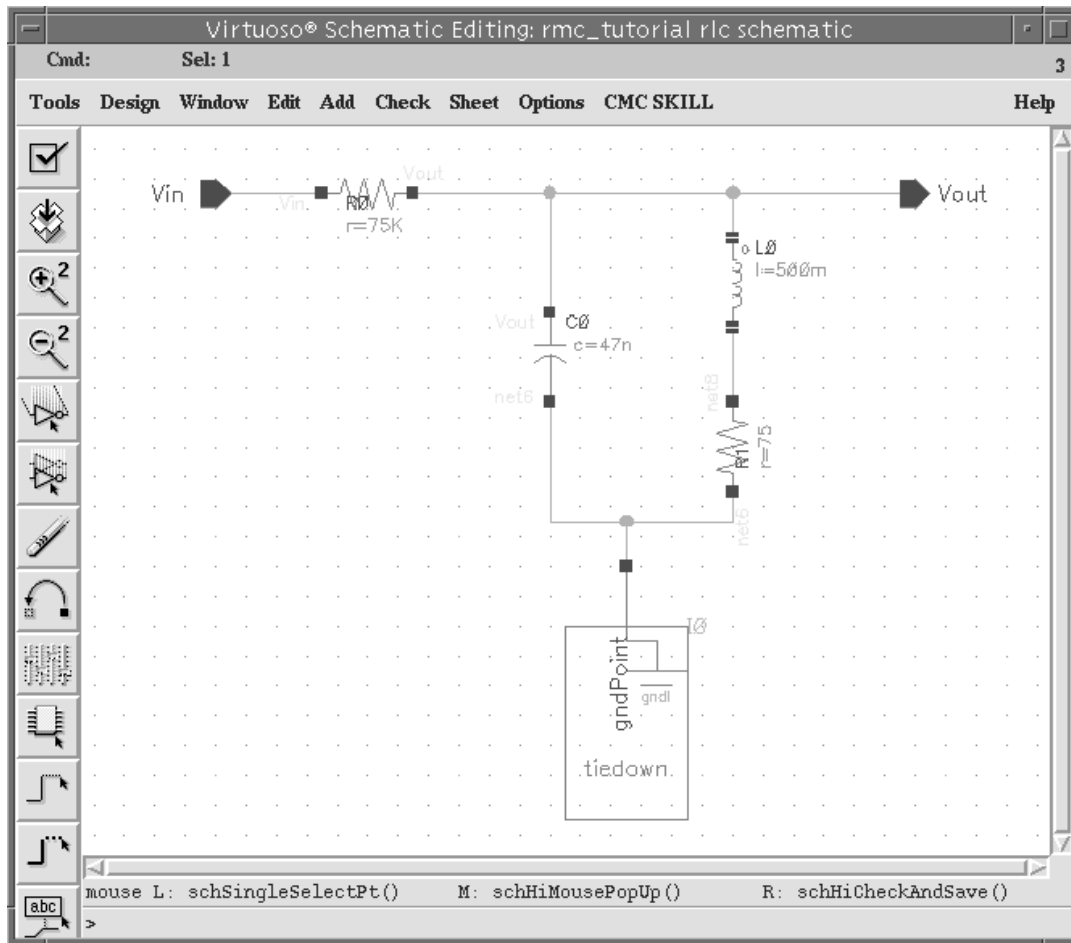

Figure 4: RLC Circuit
The rest of this section describes the required steps to create the '*rlc*' circuit shown at *Figure 4*. You will then move on to create the inverter schematic.
- a. Before wiring, you may wish to move some of the components around on the screen to look more like the schematic shown in *Figure 4*. Use the 'ESC' key to ensure you are not stuck in a weird mode, and then you can drag the components around on the screen. To begin connecting the wires as per the schematic in *Figure 4*, click on the **Wire(narrow)** icon;
- d. Finish connecting the components together until your circuit resemble the one shown in *Figure 4*.